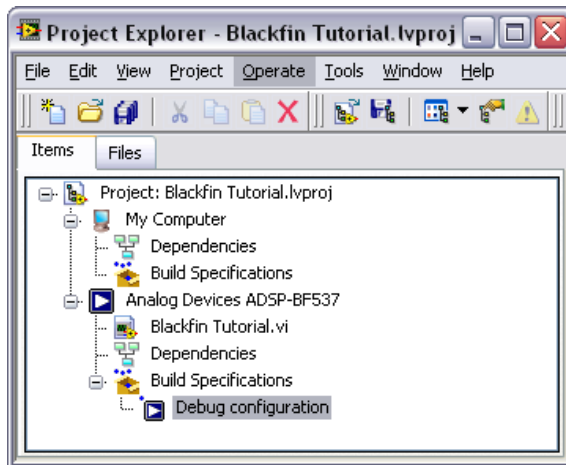

Figure 16. Renaming the Blackfin Build Specification
- Triple-click **VDK Application** and rename the build specification to **Debug configuration** as shown in Figure 16.